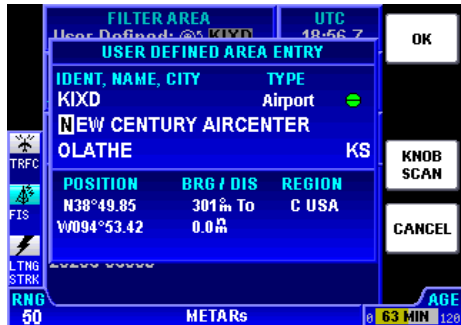

Figure 2-72
3. Move the Joystick down to highlight the first the character of the location name as shown in Figure 2-72.